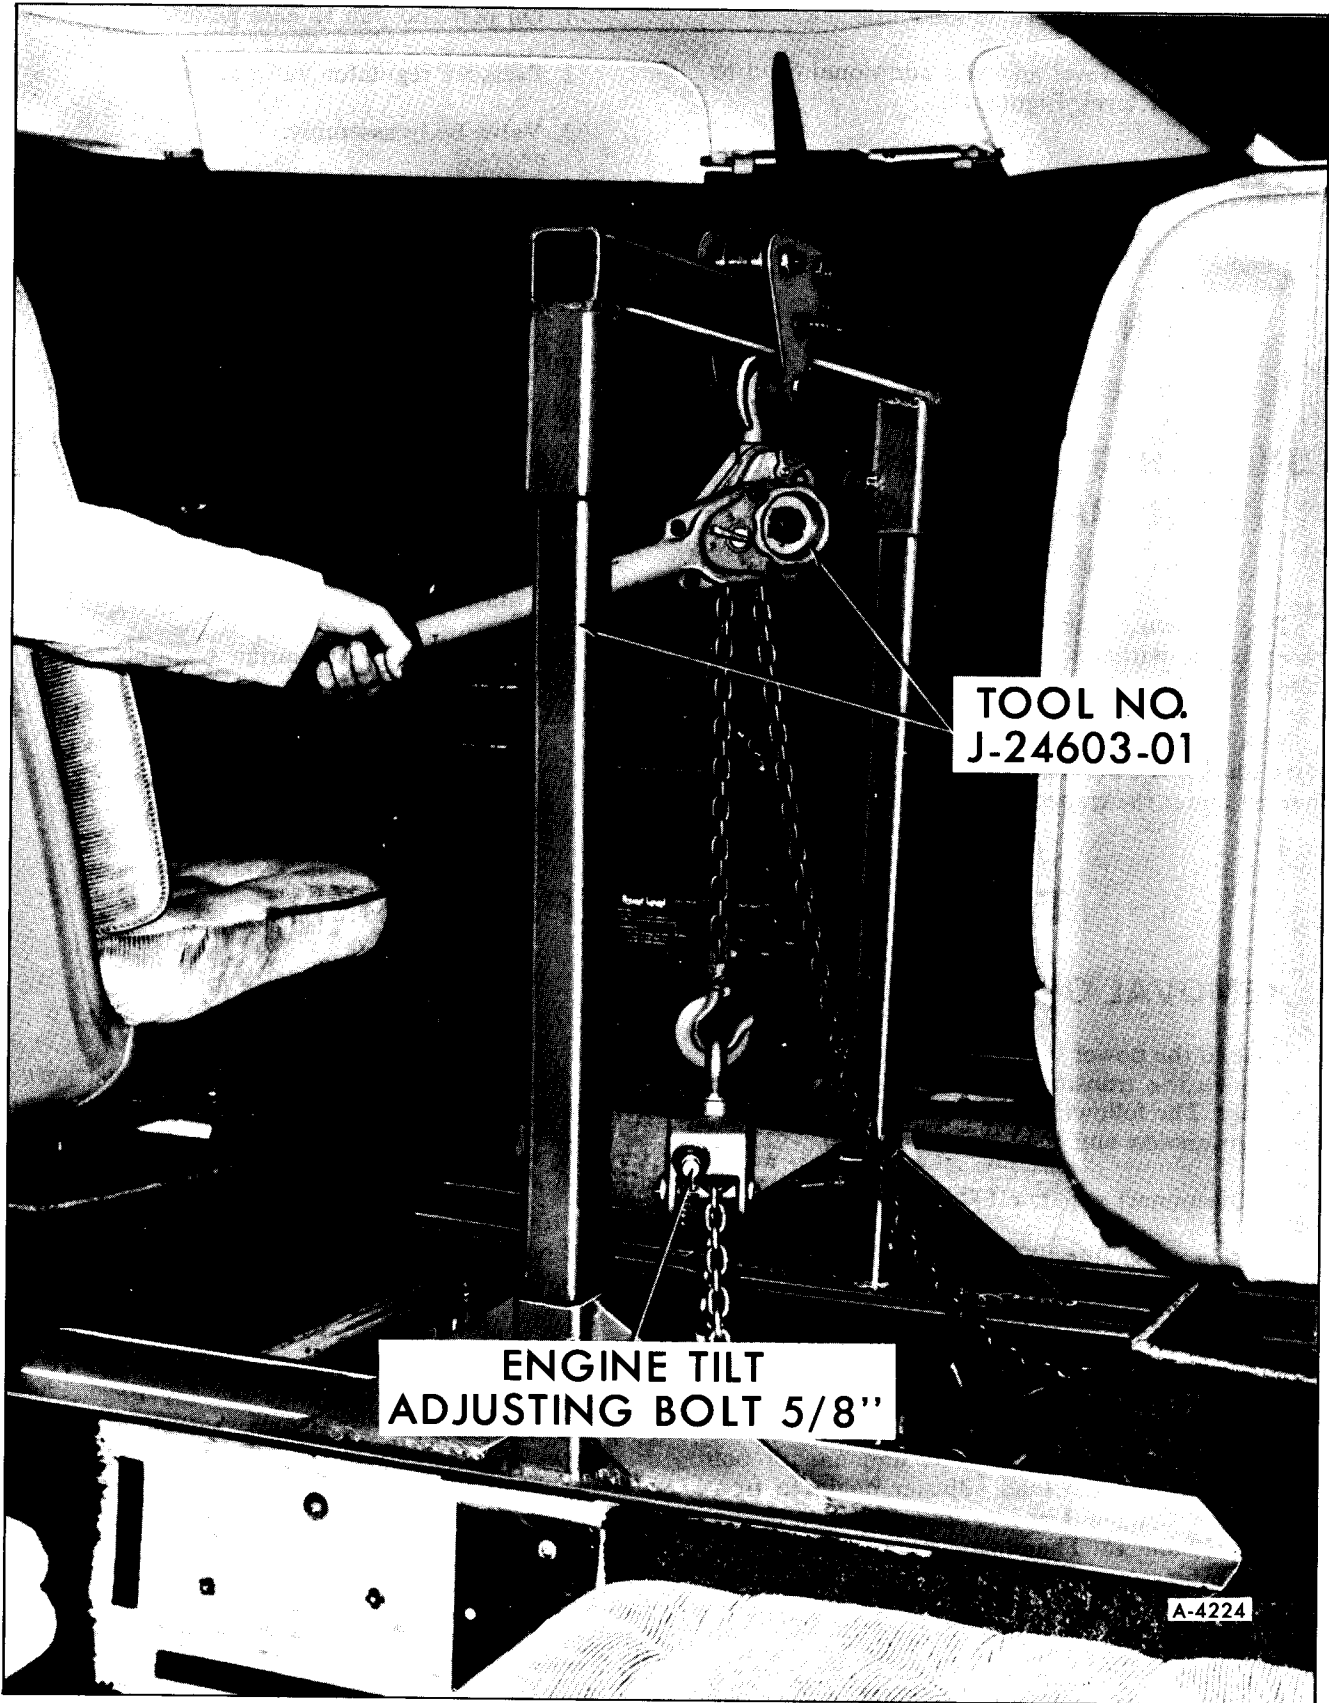
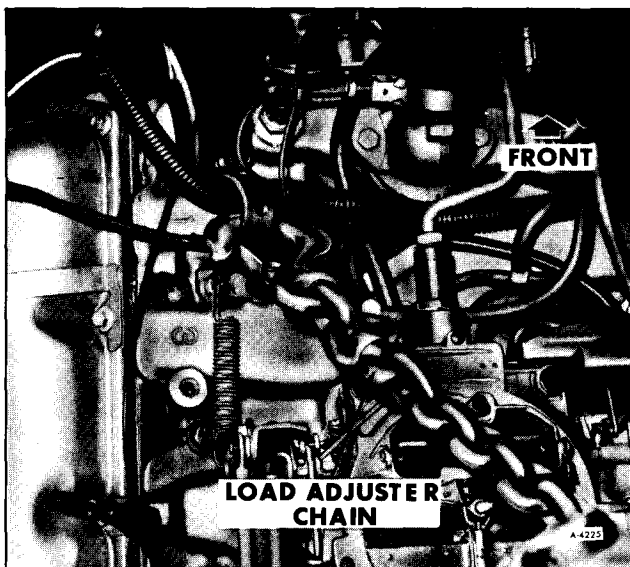

Figure 16—Attaching Engine Removal Tool
Figure 17—Front Engine Lift Location
3. Position engine holding fixture as shown in Figure 16 and adjust mechanism to remove slack from cable.
NOTE: To properly position engine removal tool. Remove seat belt plate and anchor bolt assembly. Attach load adjuster chain to front and rear engine. Lift locations as shown in Figures 17 and 18. Then install support braces and chain hoist as in Figure 16.